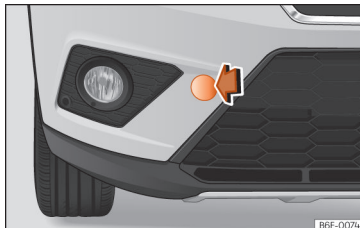

Fig. 46 Right side of the front bumper: remove the cover.
The housing of the removable towline anchorage is on the right side of the front bumper underneath a cover »» **Fig. 46**.
- Remove the cover by pressing down on its right-hand side and leave it hanging from the vehicle »» **Fig. 46**.